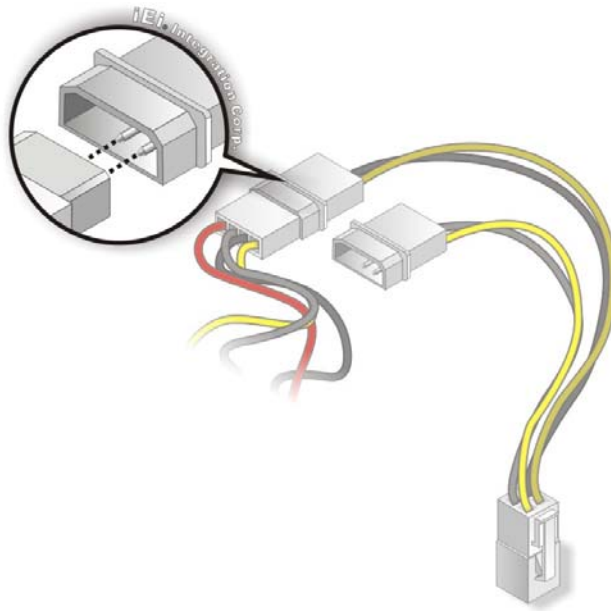

Figure 4-11: Connect Power Cable to Power Supply
Step 3: Connect Power Cable to Power Supply. Connect one of the 4-pin (1x4) Molex type power cable connectors to an AT power supply. See Figure 4-11.